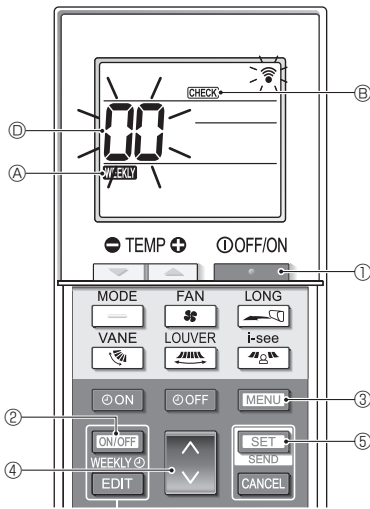

Fig. 5-2
2. Self-check (Fig. 5-2)
- Press the **STOP** button ① to stop the air conditioner.
- If the weekly timer is enabled (**WEEKLY** ④ is on), press the **ON/OFF** button ② to disable it (**WEEKLY** ④ is off).
- Press the **MENU** button ③ for 5 seconds.
- CHECK** ⑤ comes on and the unit enters the self-check mode.
- Press the **MODE** button ④ to select the refrigerant address (M-NET address) ⑥ of the indoor unit for which you want to perform the self-check.
- Press the **SET** button ⑤.
- Press the **STOP** button ①.
- CHECK** ⑤ and the refrigerant address (M-NET address) ⑥ go off and the self-check is completed.